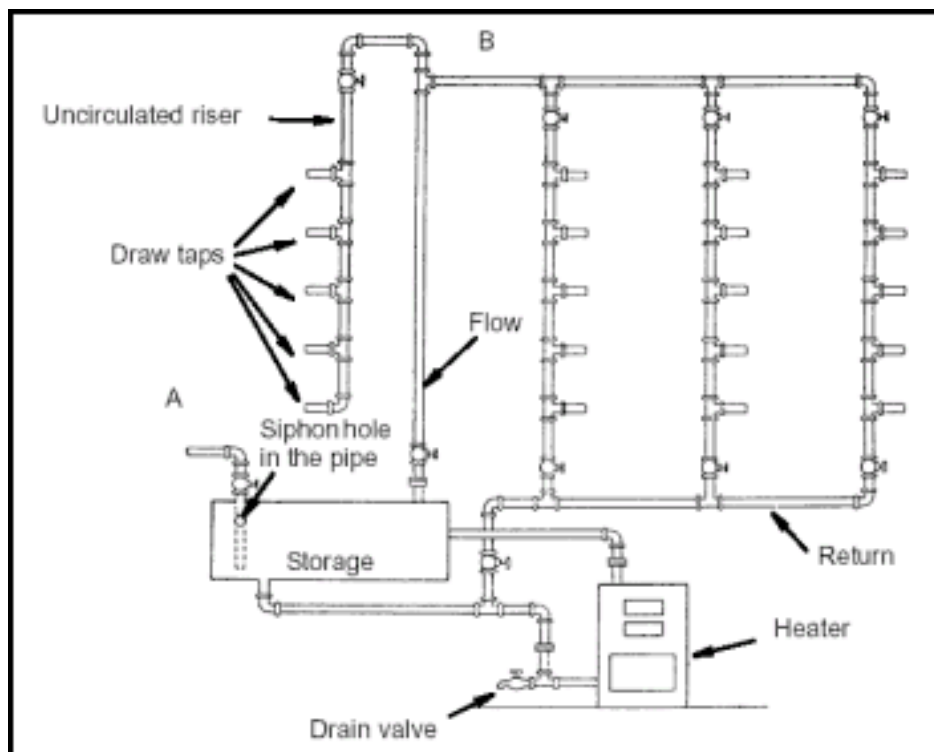

Figure 1-4. Circulating Hot-Water System (Two-Pipe)
1-48. To overcome this time lag, use a two-pipe, circulating-water supply system (Figure 1-4). Hot water passes from the water heater through the main fixture supply risers and returns through a line to the water heater. This looped system circulates the hot water at all times. Warm water tends to rise and cold water tends to fall, creating circulation. The water within the loop is kept at a high temperature. When a tap is opened, hot water flows from the hot-water supply riser into the branch and out of the tap. The cold-water filler within the hot-water storage tank (water heater) has a siphon hole near the top of the tank. If reduced pressure occurs at point A, the siphon hole allows air to enter the cold-water filler. This breaks the vacuum and prevents back siphonage of hot water into the cold-water distribution system.
1-50. This circulating supply system (Figure 1-4) is an overhead-feed and gravity-return system and is likely to become air-locked. An air lock prevents circulation of the hot water. Since air collects at the highest point (B) of the distribution piping, the most practical way to relieve the air lock is to connect an uncirculated riser to the line at that point. The air lock is relieved when a fixture on the uncirculated riser is used.